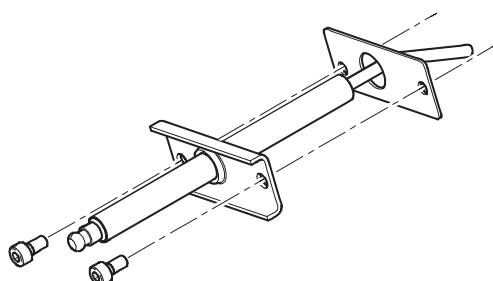

Figure 35: Flame Rod Assembly
- d. Install flame rod as shown in Figure 35.